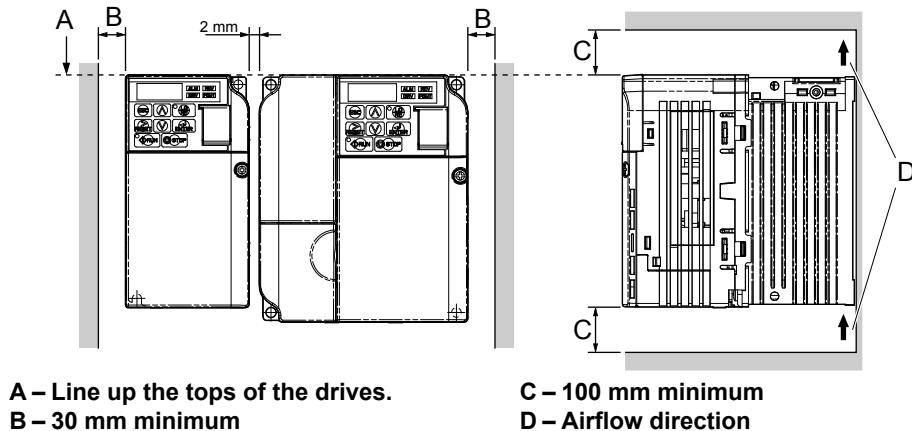

**Figure 2.2 Correct Installation Spacing**
**Figure 2.2** shows the required installation spacing to maintain sufficient space for airflow and wiring. Install the heatsink against a closed surface to avoid diverting cooling air around the heatsink.
When installing multiple drives into the same enclosure panel, mount the drives according to **Figure 2.2**. When mounting drives with a minimum side-by-side clearance of 2 mm according to **Figure 2.3**, derating must be considered and parameter L8-35 must be set. **Refer to Parameter List on page 347.**